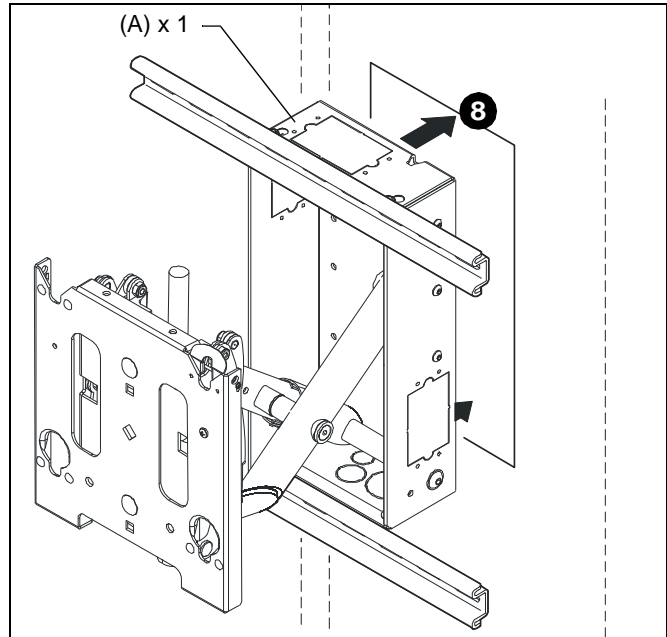

**Figure 4**
6. Assemble upper and lower mounting rails (B) to mount (A) in slots that correspond to the desired lateral shift offset identified during step 3 above using four flanged nuts (K). (See Figure 3) and (See Figure 4)